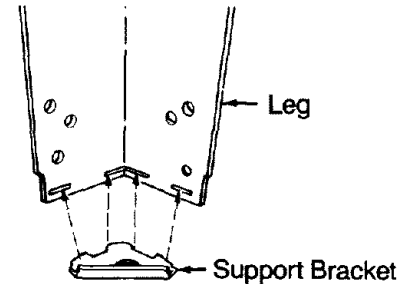

Fig. 33
1. Mount *floor leveler support brackets* inside legs. Line up the three tabs on *brackets* with slot on *leg* and tap into place. Make sure lip on *bracket* points up. (Figure 33)